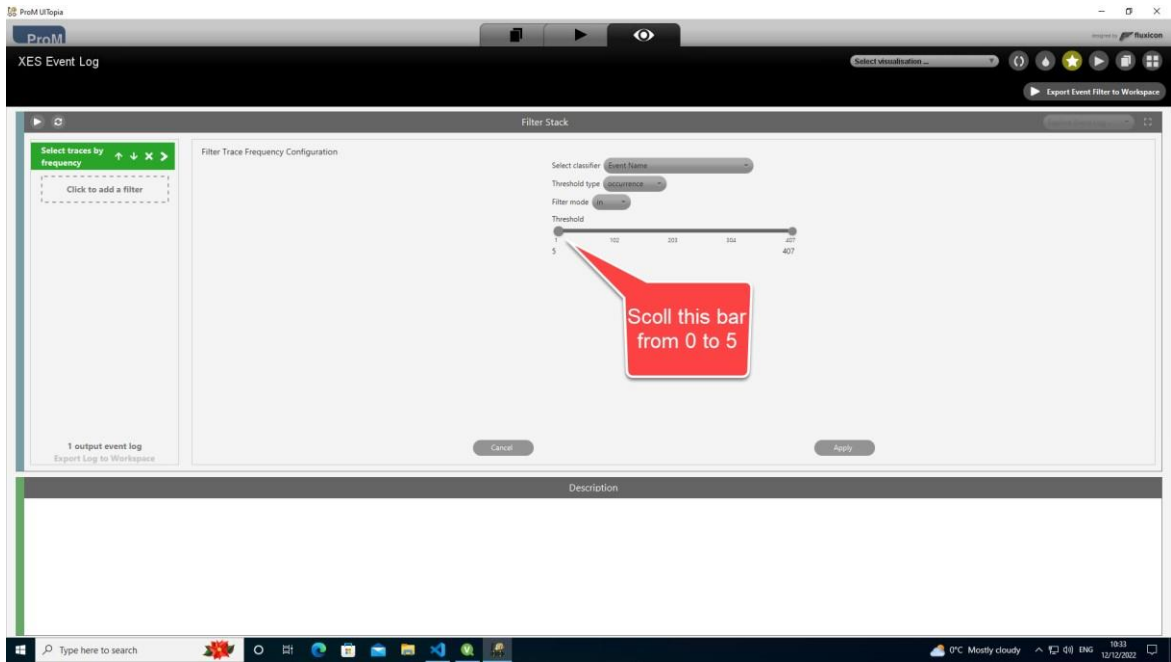

Figure 17 – Image showing how to select a minimum threshold of 5 occurrences.
13. Now drag threshold scroller on the left from 0 to 5 as seen in figure 17.